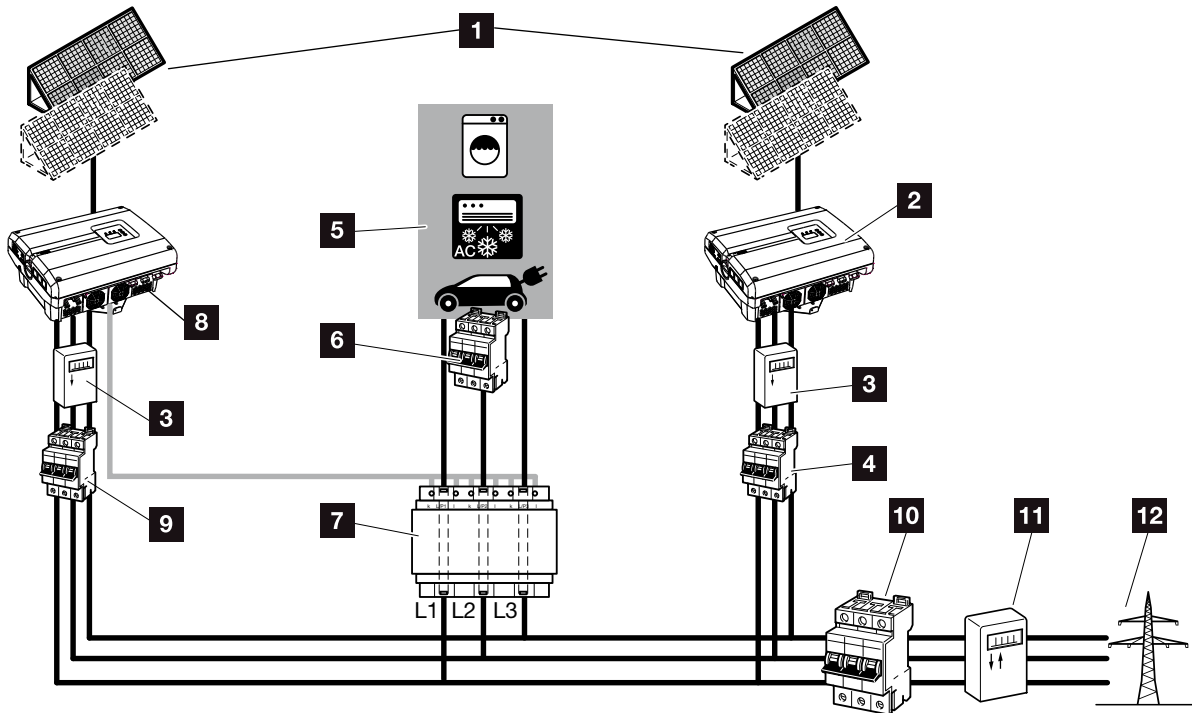

Fig. 81: Connection of several inverters - current sensor position mode 1 - building consumption data (possible as of PIKO 4.2)
**Fig. 81** and connect them properly.